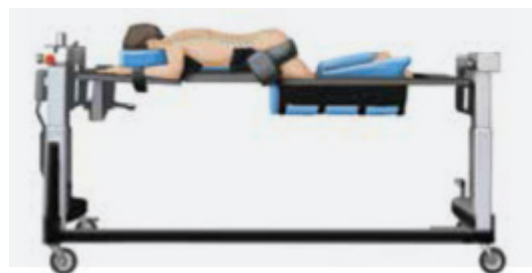

Figure 1
- Place the patient on a radiolucent operating table in the prone position with the head and neck held securely in proper alignment. (Figure 1) Prepare, clean, and drape the operative area in a conventional manner and then make an incision at the appropriate level(s). Apply lateral C-arm fluoroscopy or other radiographic techniques during surgery to ensure correct targeted levels and implant placement.